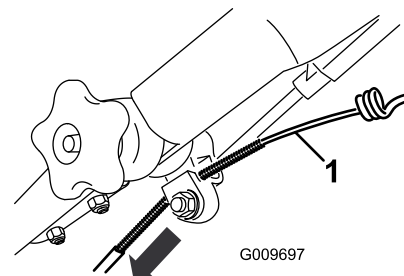

Figure 45
3. Pull the cable jacket downward until you remove the slack in the exposed cable (Figure 45).